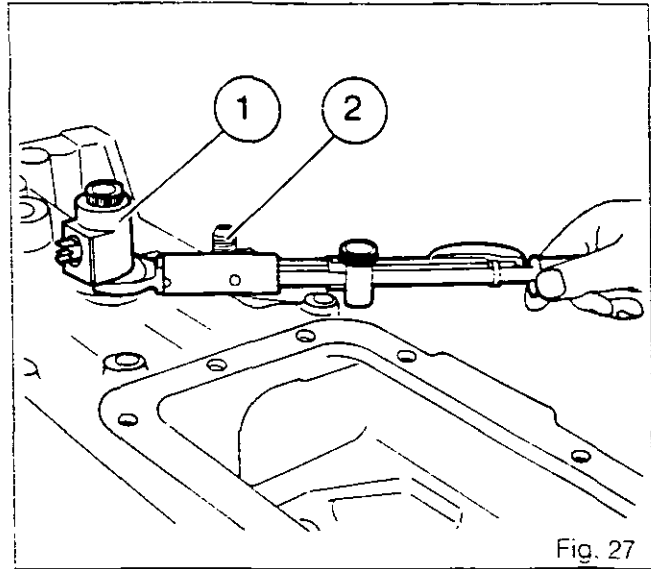
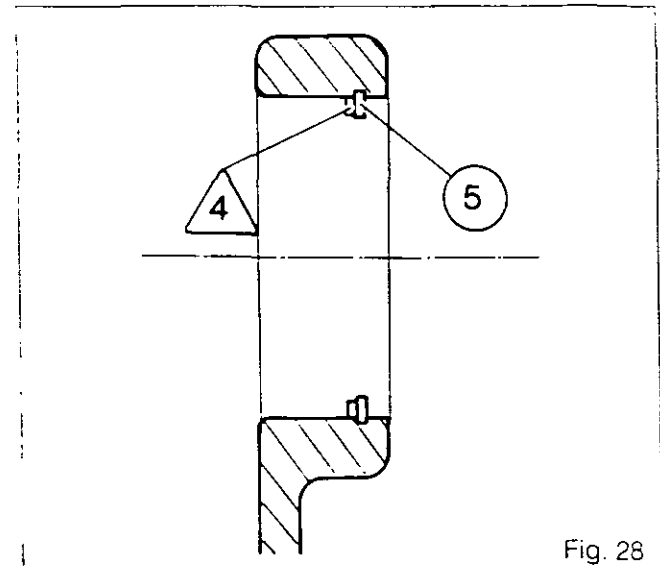

Fig. 27
Fig. 28
78. If the gearbox is fitted with Speedshift, fit the solenoid valve (1) and tighten to a torque of 18-20 Nm (Fig.27).
79. Fit the T-piece (2) for the A/B feed pipe (Fig.27).
82. Using a press, fit the bearing cone (17) on to the shaft (69).
83. Fit the circlip (70).
84. Fit the circlips (5) and (15).
85. Refit the shim (4).
**Note: (Fig.28) Position the shim (4) on the circlip (5) side.**
87. Fit the shims [3] and cups (2) and (16).
88. Assemble 1st gear (7) and its bush (8), the lock plate (9), the 1st gear synchromesh cup (10), the 1st and 2nd gear synchromesh (11), the 2nd gear synchromesh cup (12), the cone (13) and the 2nd gear (14).
**Note: Position the shim /4/ on the circlip (5) side (Fig.28).**